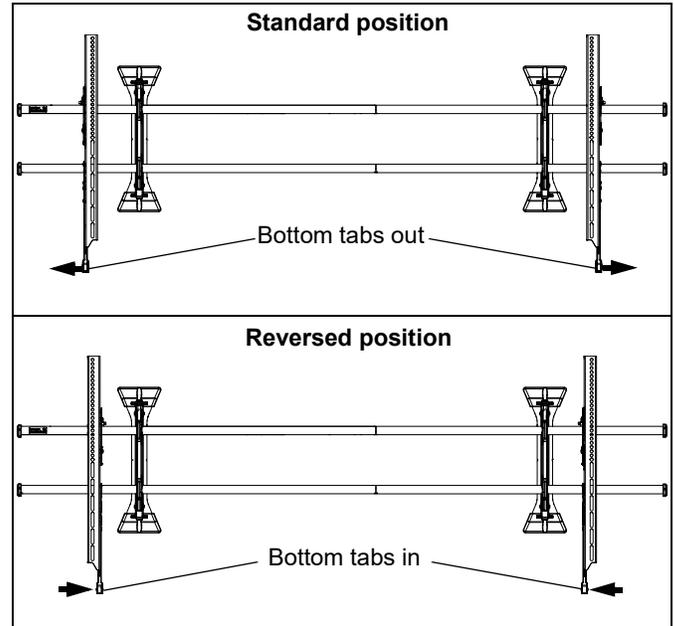

Figure 11
3. If necessary, the interface brackets may be reversed. (See Figure 11)